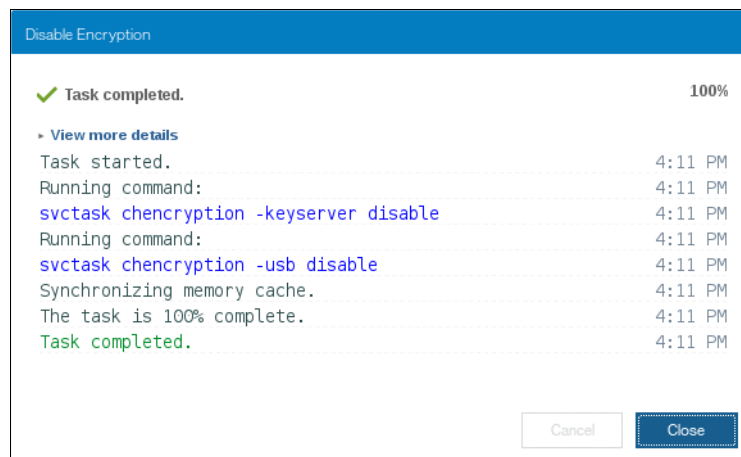

Figure 13-84 Encryption disabled
2. You receive a message confirming encryption has been disabled. Figure 13-84 shows the message when using a key server.